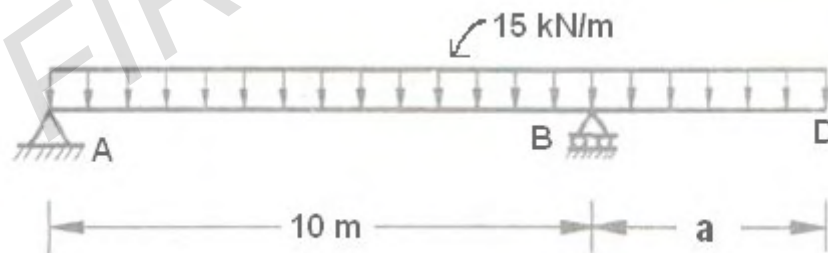

Figure 5
- (a) Determine the length of overhang of the beam shown in figure 5, such that the displacement at D is zero.